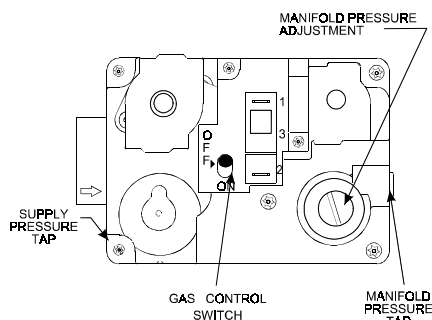

FIGURE 3 – WHITE-RODGERS GAS VALVE
6. Move gas valve control lever or switch to "OFF". See Figure 3.
This furnace is equipped with a gas shutoff lever or switch on the gas valve, which can be used to prevent gas from flowing to the furnace. Figure 3 shows the location of the shutoff lever or switch. To turn off gas to the furnace, move the lever or switch to the "OFF" position.